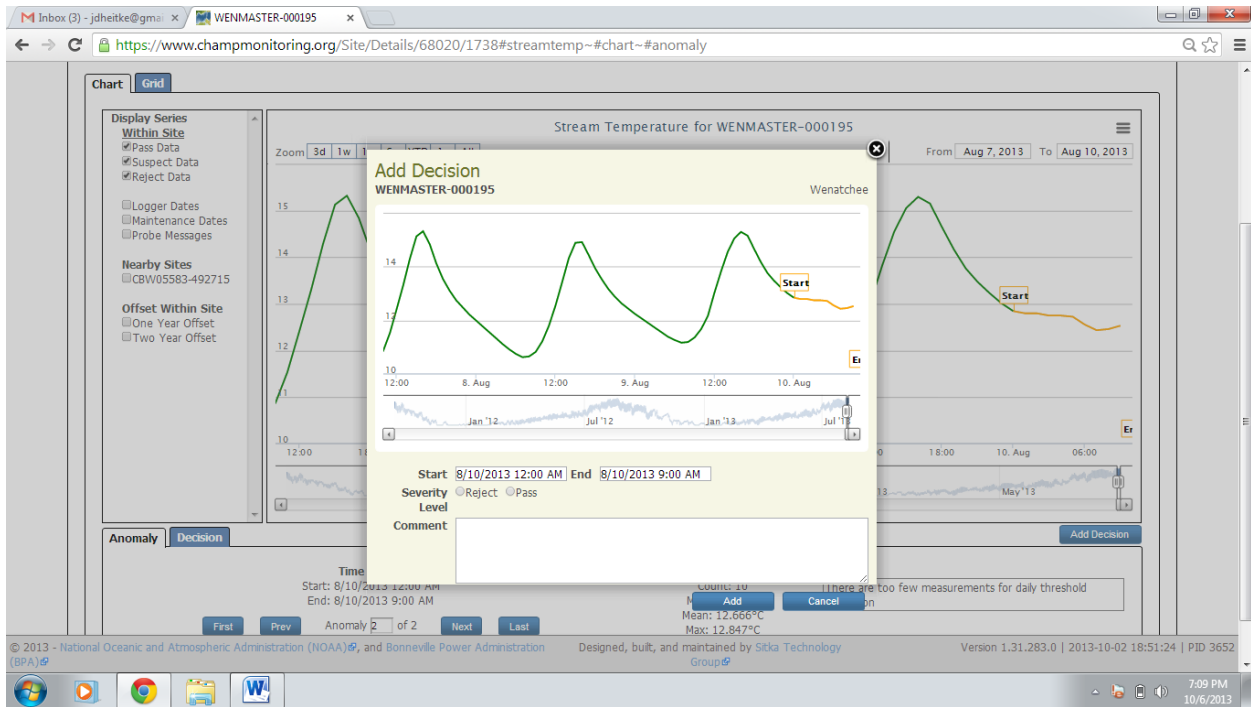

Figure 13. “Add Decision” window of the QA tool. Determine if the data will be Passed (summarized) or Rejected. Include a comment explaining your decision.
2. A new window will pop up (Figure 13)